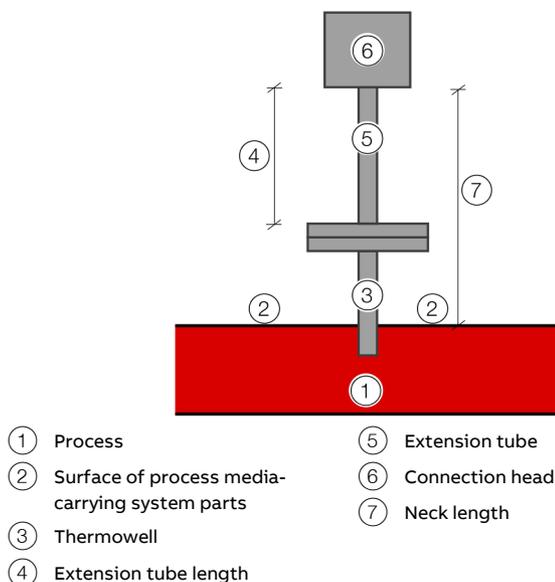

Figure 1: Definition of the neck length
- (A) Temperature rise in connection head °C (°F)      **Surface temperature of process media-carrying system parts °C (°F), see Figure 1 on page 7**
- (B) Neck length mm (in)
- ① 250 (482)
- ② 450 (842)
- ③ 620 (1148)
- ④ 800 (1472)